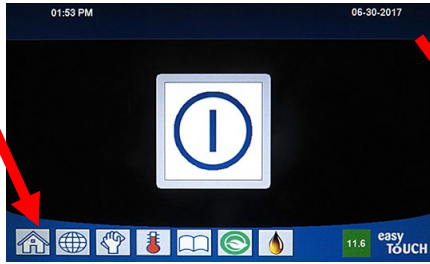

Figure 21
Press the "HOME" button on the (see Figure 21).
- 10. Press the "HOME" button (see Figure 21) when finished.